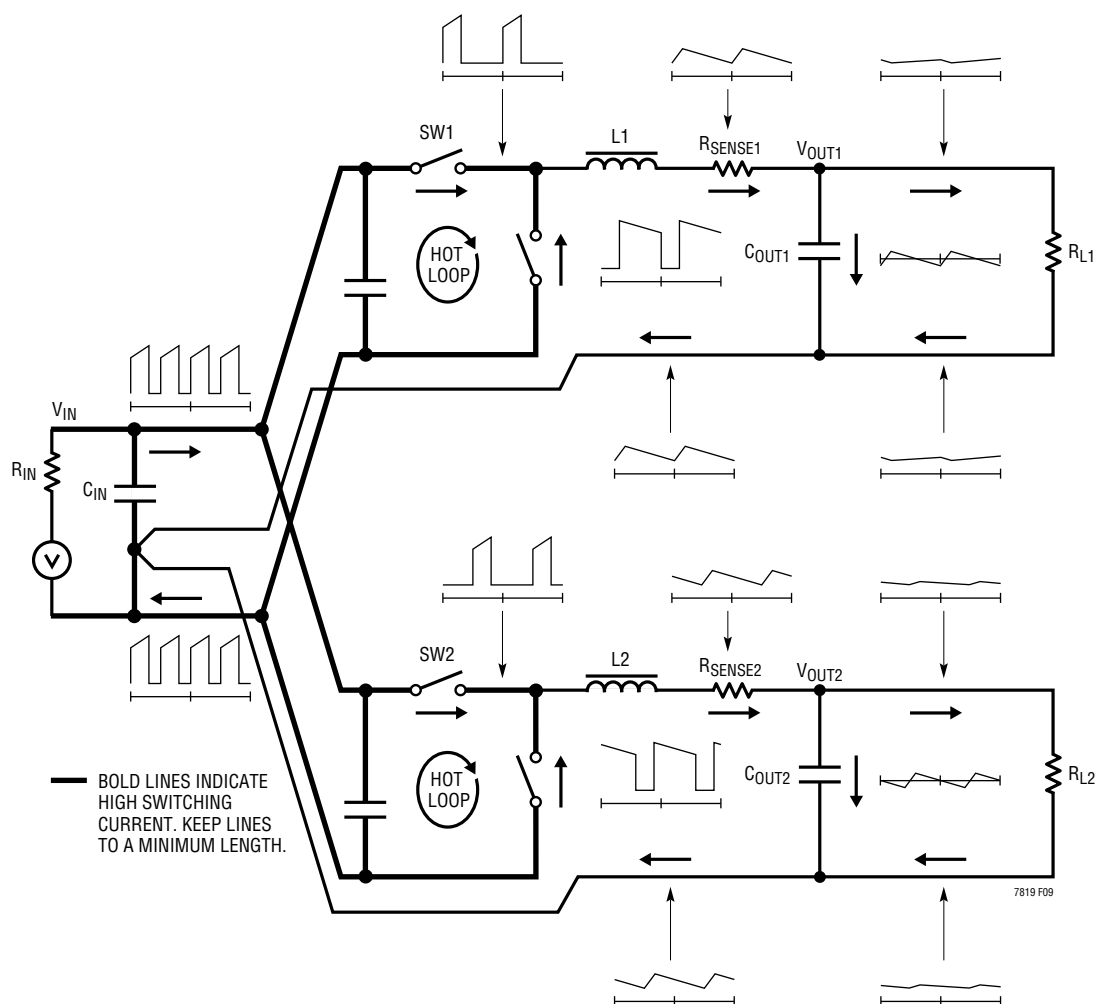

Figure 8. Branch Current Waveforms for Bucks
When laying out the printed circuit board, the following checklist should be used to ensure proper operation of the IC. Figure 8 illustrates the current waveforms present in the various branches of the synchronous regulators operating in the continuous mode. Check the following in your layout:
2. Are the signal and power grounds kept separate? The combined IC ground pin and the ground return of $C_{INTV_{CC}}$ must return to the combined C_{OUT} (–) terminals. The area of the “hot loop” formed by the top N-channel MOSFET, bottom N-channel MOSFET and the high-frequency (ceramic) input capacitors, as shown in Figure 8, should be minimized with short leads, planar connections, and multiple paralleled vias where needed. The output capacitor (–) terminals should be connected as close as possible to the (–) terminals of the input capacitor.